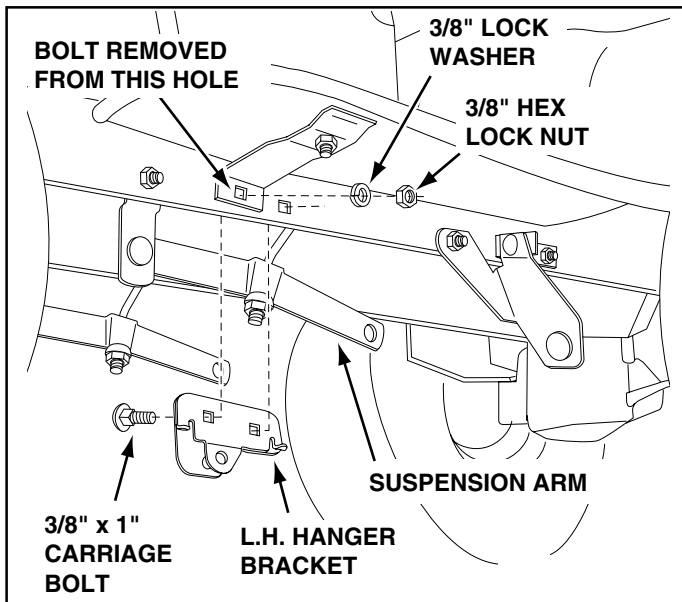

FIGURE 7 LEFT SIDE VIEW
On Tractors With Foot Rest Brackets (Figure 7)
1. Remove the bolt and nut that fasten the L.H. and R.H. foot rest brackets to the frame. See figure 7.
2. Attach the L.H. Hanger Bracket (marked "L") to the inside of the tractor frame using two 3/8" x 1" carriage bolts, 3/8" lock washers and 3/8" hex lock nuts. The bolt heads go on the inside of the tractor frame. Repeat for the R.H. side. See figure 7.